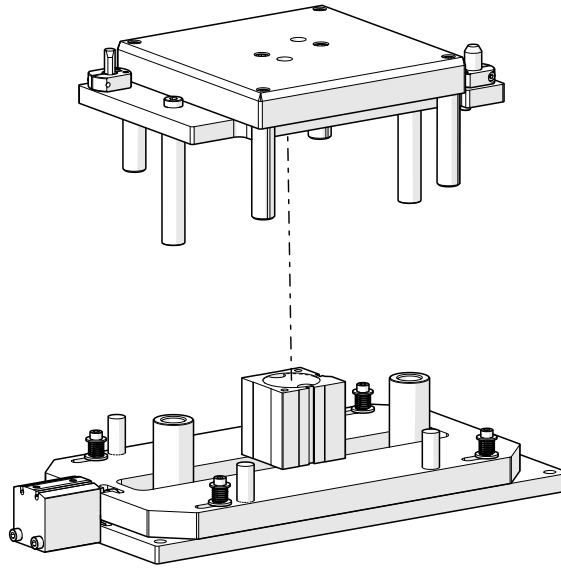

Figure 7: Removing Top Plate Assembly
Step 2: Remove Anvil Plate Assembly as shown in Figure 7